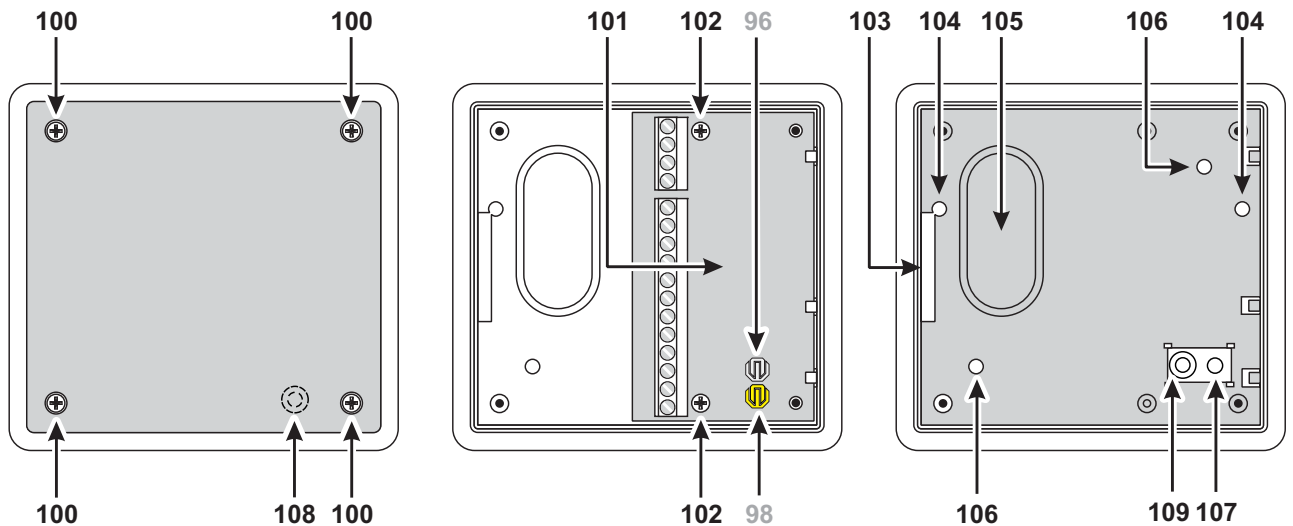

Figure 8 Module and Expander box
*Position the snatch microswitch bracket as shown in figure 8 on page 14, with the conductive pin **109** on the back of the container. The pin is designed to close the snatch microswitch contact **96** on the printed circuit (solder side).*